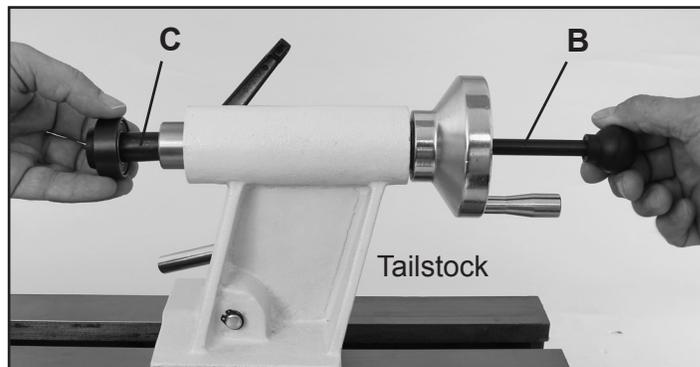

FIG. 8
To remove live center from the tailstock spindle, loosen the tailstock's spindle locking lever and rotate the hand wheel counterclockwise to retract spindle into the body of the tailstock. The live center will automatically be pushed out of the spindle. Carefully hold the live center as it is pushed out of the spindle, so that it does not fall out and get damaged, or injure your hand. The knockout bar (B) can also be used to release the live center from the tailstock. FIG. 8.